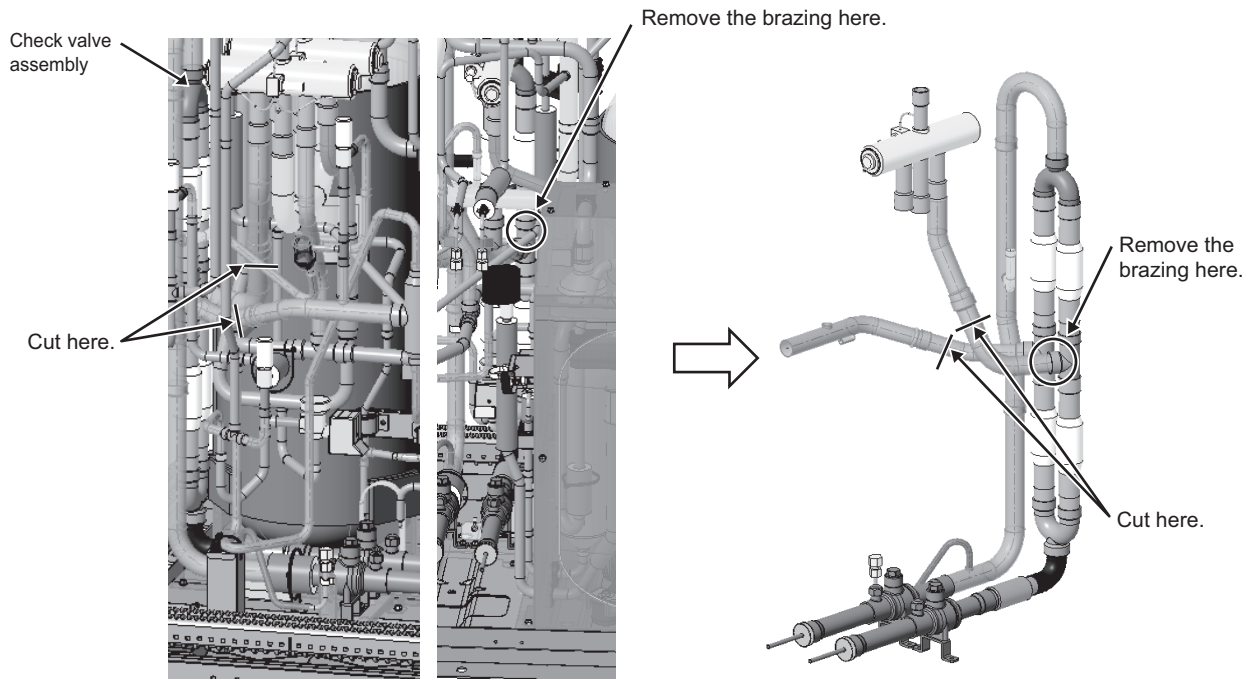

Fig. 5
(3) Cut the pipes located before the check valve assembly joints using a pipe cutter or a similar tool, as shown in the figure below. After cutting the pipe, remove the brazing from the pipe. (Two points to cut and one area to remove brazing: Fig. 5)